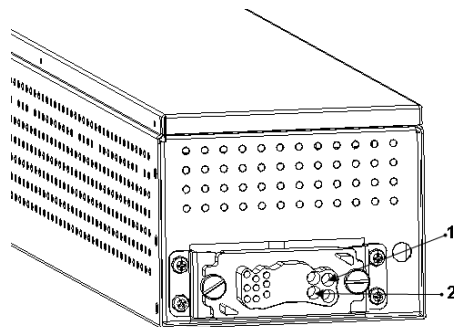

Fig. 2-1: Battery Box Back
- Voltage between points 1 and 2 (Fig. 2-1) may exceed 150V DC, so they must not be touched and the cover shall be kept on when not installed